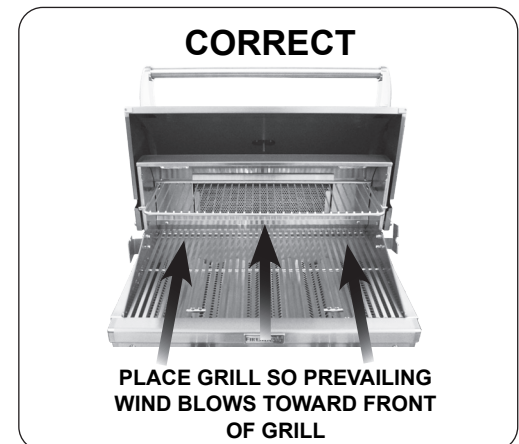

Fig. 19-3 Airflow direction - CORRECT
**CAUTION:** Wind blowing into or across the rear oven lid vent (Fig. 19-4) can cause poor performance and/or dangerous overheating. Install the grill so that the prevailing wind blows toward the front of the grill (Fig. 19-3). **A wind deflector is available for purchase to assist in proper airflow during windy conditions.** See Table 3 for model numbers. Follow the instructions included with the wind deflector for installation.